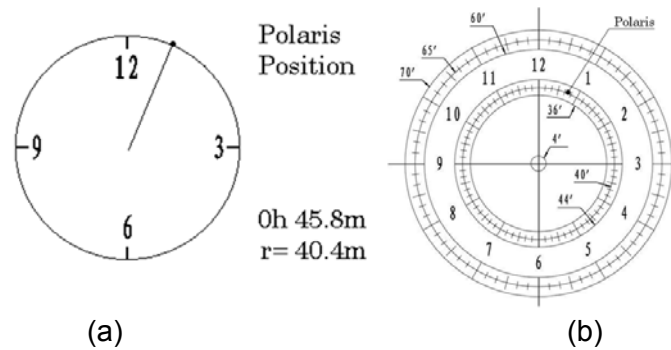

Figure 21. Polaris Position shown on HC (a) and where to put on polar scope reticle (b)
- (5) Use the ◀ or ▶ key to adjust polar scope dial to ensure that 12 o'clock is at the top. If the polar scope is equipped with a bubble level indicator, you may use the bubble as the reference.
- (6) Use the Hand Controller (**MENU => "Alignment" => "Pole Star Position"**) to display the current position of Polaris on the LCD screen, as indicated in the left side of the figure below. For example, on June 22, 2014, 20:19:42 in Boston, US (alt N42°30'32" and long W71°08'50"), 300 min behind UT (UTC -300 minutes), the Polaris Position is 0h45.8m and 40.4m.
- (7) Look through the polar scope to find the Polaris. Use the Azimuth and Latitude Adjustment Knobs to adjust the mount in both directions and put the Polaris in the same position on the Polar Scope reticle as indicated on the HC display screen. In this case, Polaris will be located at a radius of 40.4 minutes and an angle of 0h 45.8 minutes, as shown In Figure 21 (b).